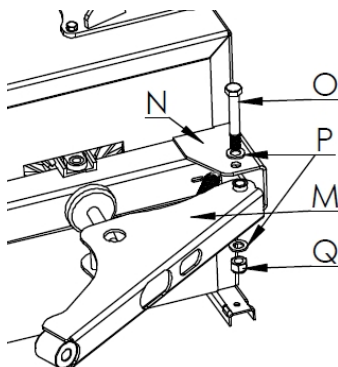

Fig. 8
- Insert the arm (M, fig.8) into the holder (N, fig.8), which is the machine, and secure the arm (M, fig.8) with bolt (O, fig.8), washer (P, fig.8) and nut (Q, fig.8).